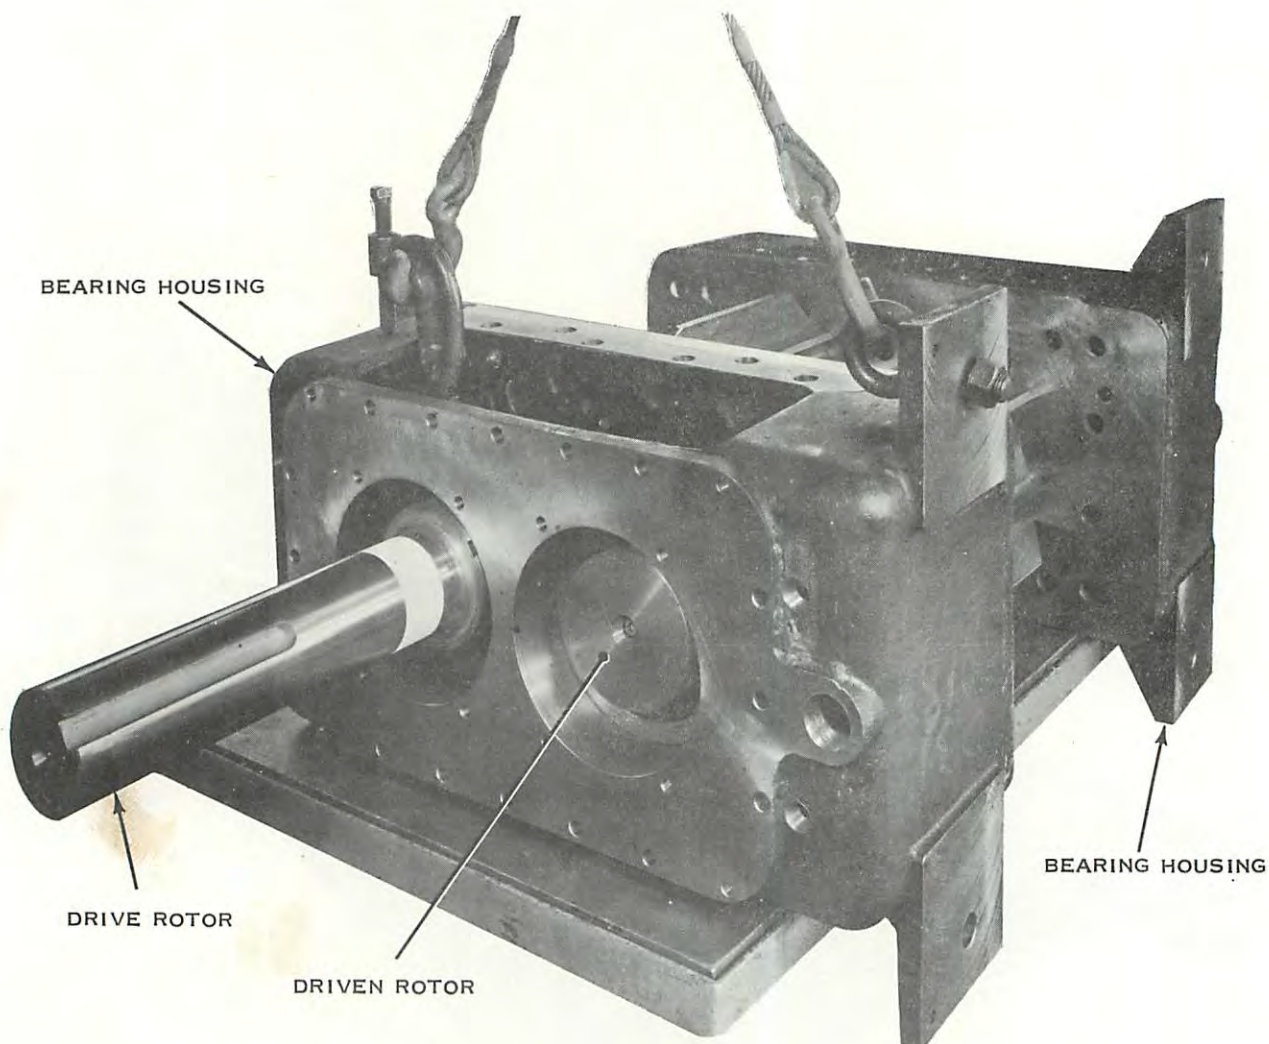

FIGURE 7. BEARING HOUSING ASSEMBLY
4. SLIDE REMAINING BEARING HOUSING OVER THE ROTOR SHAFTS REPLACING STUFFING BOX LANTERN RINGS AND INNER BEARING COVERS AS HOUSING IS ASSEMBLED. BE SURE EACH INNER BEARING COVER IS PROPERLY REASSEMBLED AND HAS NEW OIL SEALS AND "O" RING (SEE FIG. 7).